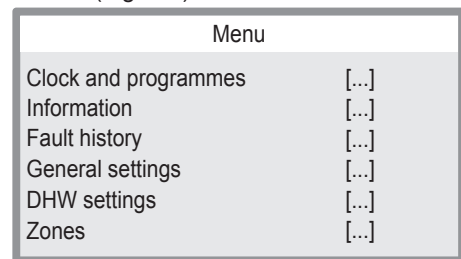

Fig. 8.2
- Press key 13 (Fig. 8.1) to access the main menu (Fig. 8.2).